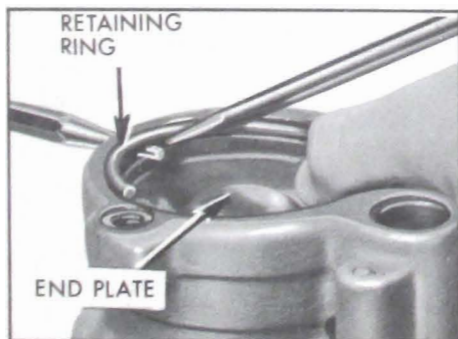

Figure 8-71—Removing End Plate Retaining Ring
9. Rotate end plate retaining ring until one end of ring is over hole in housing. Spring one end of ring with 1/8" punch to allow screwdriver to be inserted and lift ring out. See Figure 8-71.